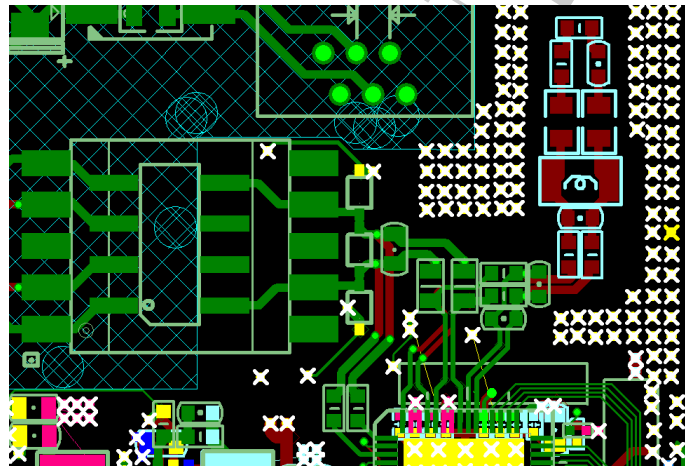

Figure 3.5: Line Driver Top and Bottom Layer Layout.
- Resistors R257,R278 should be placed in the top layer, R258,R276 place on bottom layer as shown in Figure 3.5.